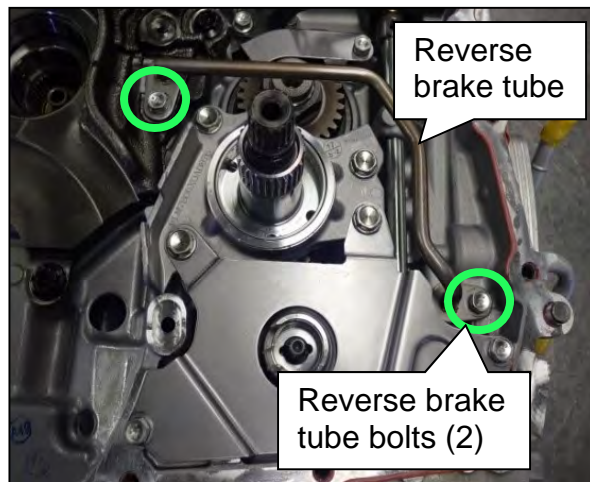

Figure 78
53. Remove the two (2) bolts circled in green, and then remove the reverse brake tube from the CVT (Figure 78).